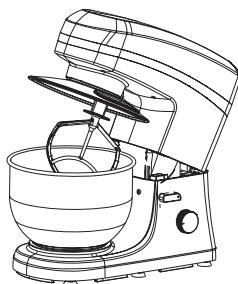

Fig. 6
4. Fix the Beater (8) the whisk (9) or the dough hook (10) onto the blade connector and rotate the blade connector clockwise until it engages firmly see Fig 6.